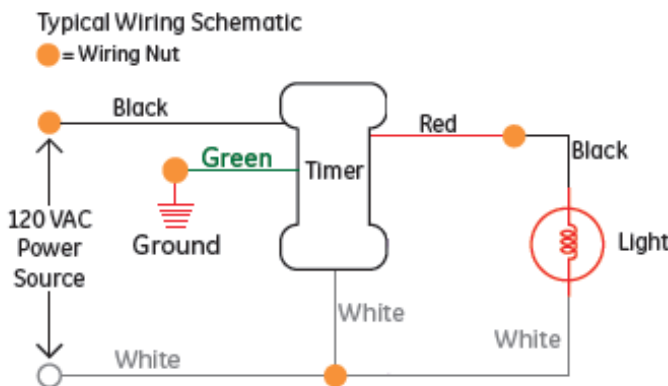

Figure 1
2. Remove timer from package. Using a dime, gently turn the center screw counter clockwise. Remove the center pin. Remove the dial. Figure 1